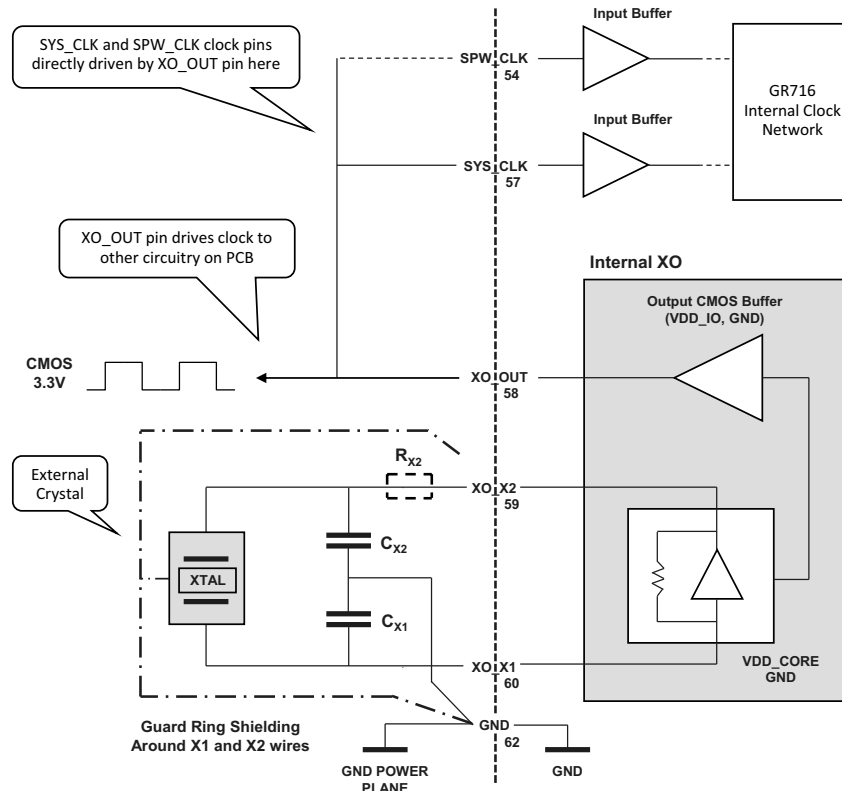

Figure 17. Connection diagram how to use the internal crystal oscillator (XO) as GR716B clock source.
- Place C_{X1} *very close* to XO_X1 pin, and connect ground by a wire to GND pin 62 (connect by individual via to pin 62), see figure 17. In addition to acting crystal load capacitance, C_{X1} will also act as low-pass filter for this XO input for any external disturbances onto the X1 wire (which may have to be rather long in some layout implementations depending on where the crystal needs to be placed).